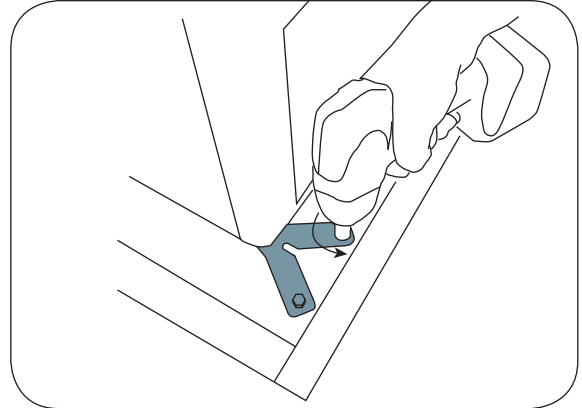
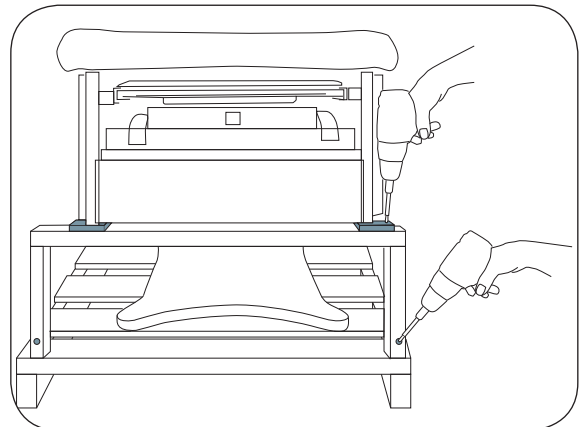

Figure 3. Remove Shipping Brackets
Figure 4. Remove Spacers and U-Brace
To avoid damaging the table's upholstery or painted surfaces, **DO NOT** use a knife or other sharp object to open the packaging. Also, to avoid damaging the table lift only at points indicated in Figure 3. Do not lift at other points as indicated by the note in Figure 4.
3. Remove the 6 steel shipping brackets securing the table to the pallet, one at each of the four corners and one at the middle on each side of the table (Figure 3). The brackets engage with the table levelers to hold the table securely to the pallet. Remove the 2 bolts from each bracket using a 7/16" socket or wrench. Take care not to scratch the unit when turning the wrench. Remove brackets from levelers once bolts are removed.
4. Remove the 2 screws attaching the spacers on either side of the wooden U-shaped brace located under the front corners of the cabinet (Figure 4). Remove the 2 screws attaching the U-shaped brace to the pallet (Figure 4).